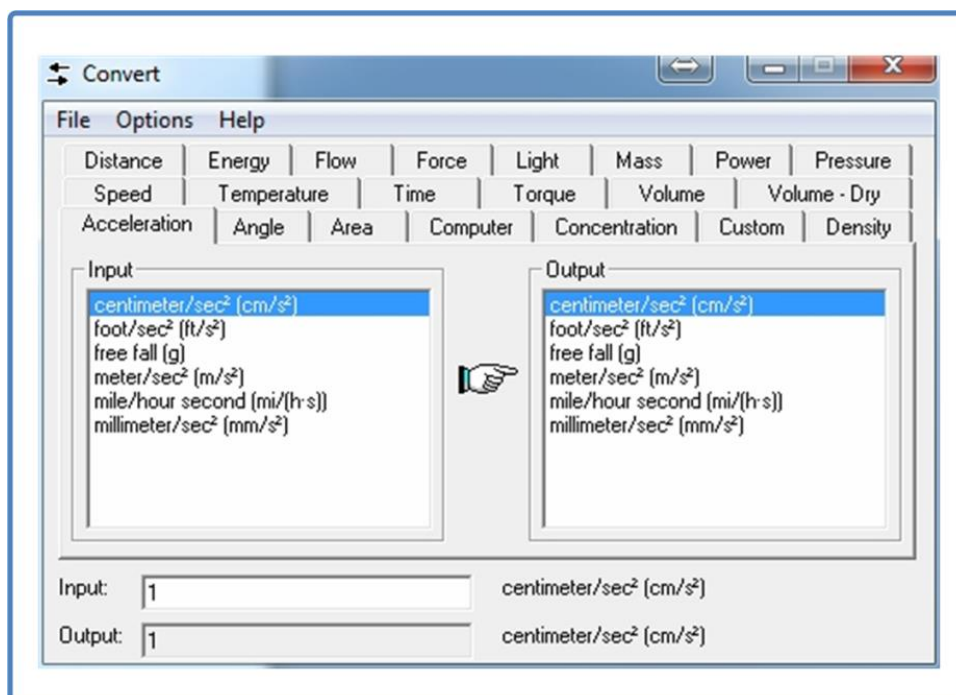

Figure 4-17 Tools – Unit Conversions Calculator Utility
- d. Unit Conversions - This is a general-purpose utility for converting values from one measurement unit to a different measurement unit. A number of conversion formats are provided. Figure 4-17 illustrates the various types of conversions available.